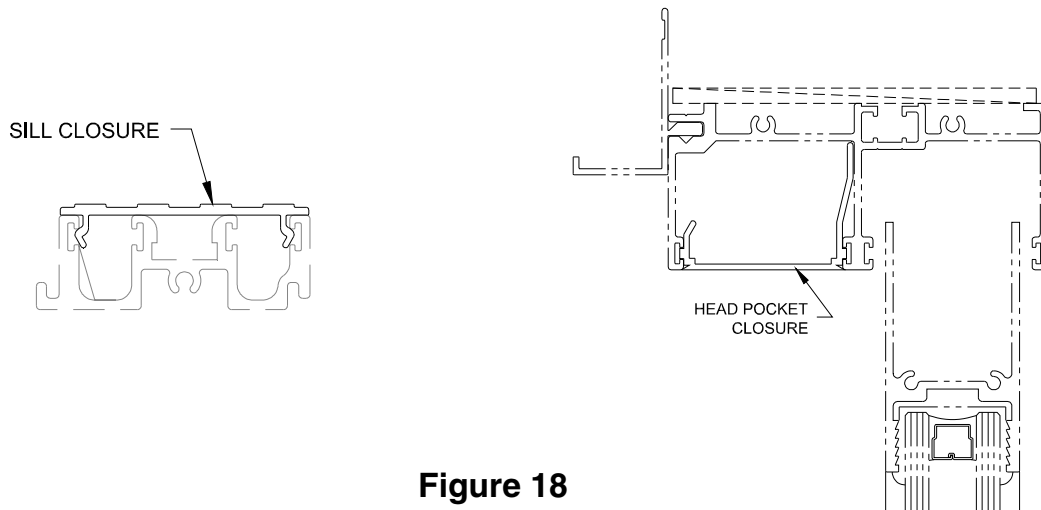

Figure 18
14. Install head and sill closures. These are provided long to be field cut by the installer once all final adjustments are made. (See Fig. 18)